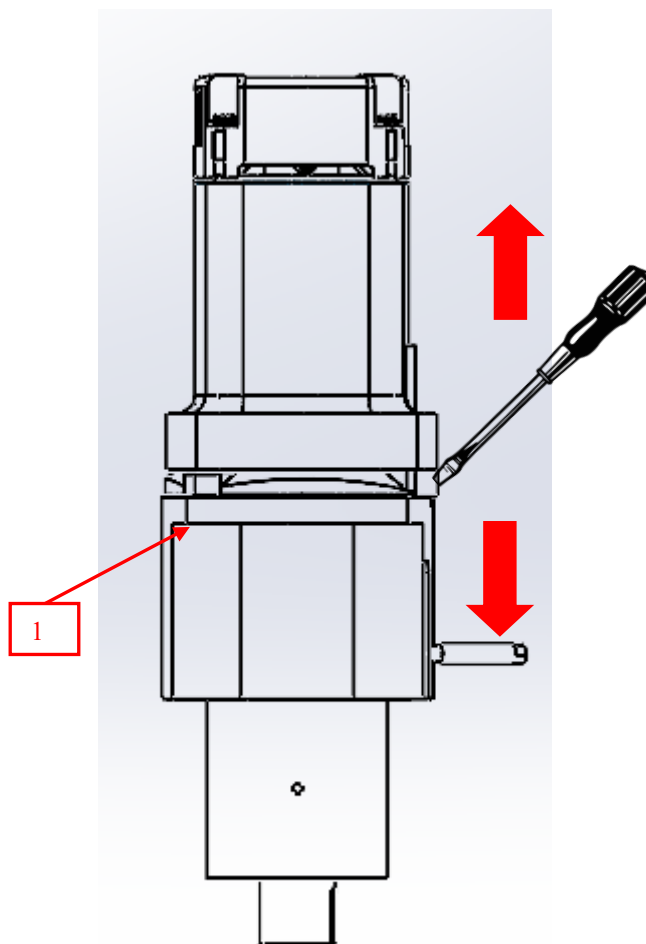

Figure 1.12
- 1.5.1 Place the motor in a vertical position and then unscrew the screws as shown in figure 1.12 – position 1;
- 1.5.2 Use a screwdriver to pry the two parts apart as shown in figure 1.12;